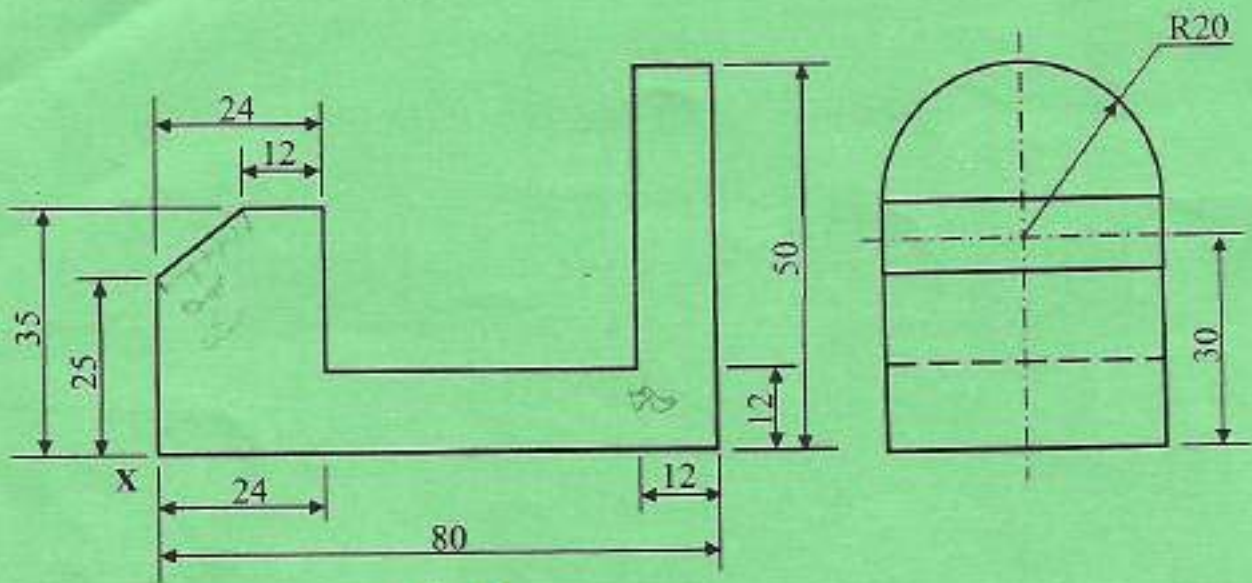

Fig. 2
6. Figure 2, shows front and end elevation of an object. Draw the isometric view of the object with corner 'X' as the lowest point. (20 marks)